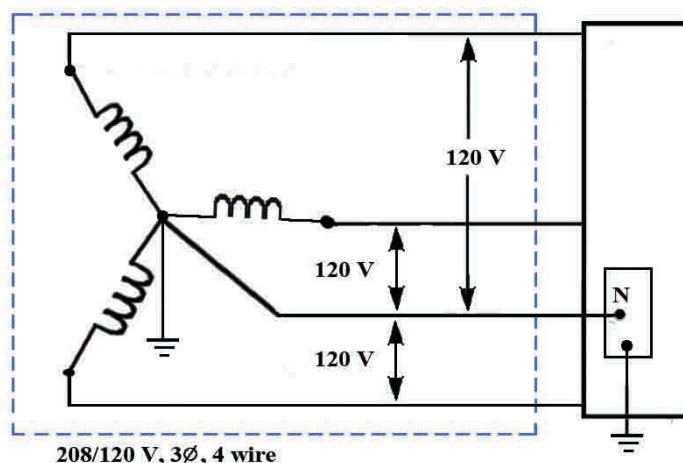

Figure 1-6. Three-phase grounded wye transformer.
The last of the three systems is the grounded wye, which is a star system (Y) with a common return or neutral wire system (fig. 1-6). This is a three-phase, four-wire system, and it is the preferred system of the Air Force. Phase voltage is possible because the common point (neutral) of the windings at the substation connects to ground, using the Earth to complete the path for the return.